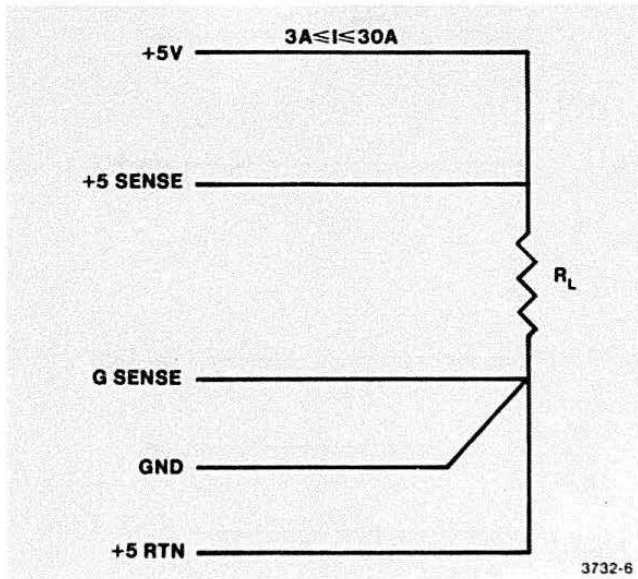

Figure 3-3. Connection of Test Load.
- Load to draw between 3 and 30 A of + 5 V. Connect + 5 V SENSE to the + 5 V output at the load. Connect + 5 RTN, GND, and G SENSE at a common point at the load (Figure 3-3).
3. Connect a suitable load, such as the one described in Figure 3-3.